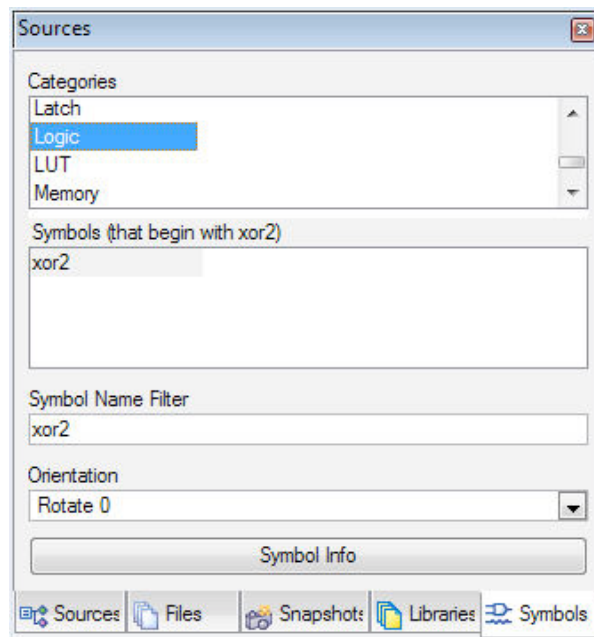

Figure 2. Sources Panel
- In the **Sources** panel on the left side, select the **Symbols** pad. All digital circuit parts are grouped in **Categories** and can be found in **Symbols** box. This is shown in Figure 2.